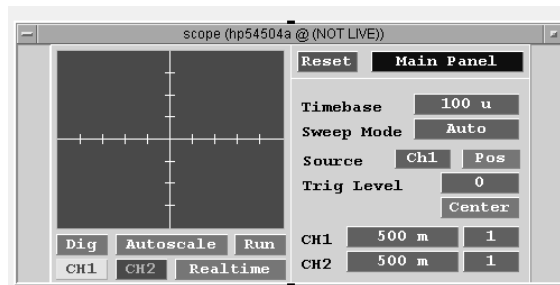

Figure 4.1. Selected hp54504a @ Not Live
2. Open Lab 3.1. It should look like Figure 4.1. Save as Lab 4.1 immediately.